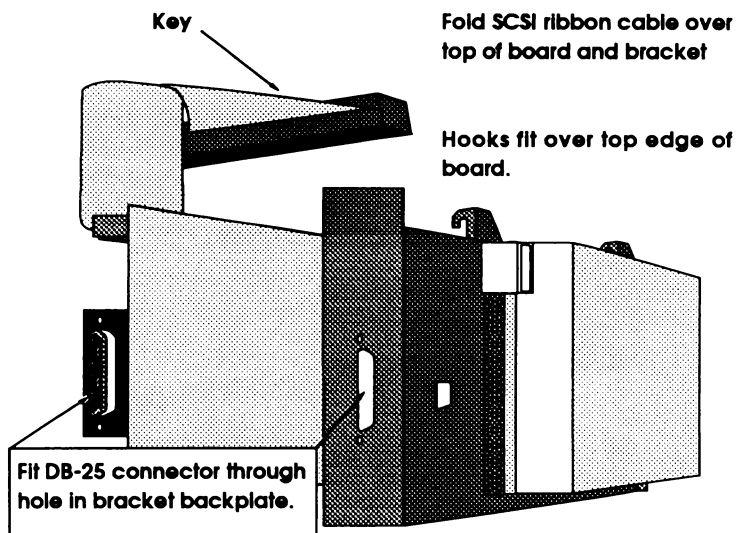

Figure 4.10 – Guide Piggy Back bracket onto Combo board.
- 3k) Hook the Piggy Back bracket over the top edge of the card and slide the elliptical hole in the bracket's rear mounting plate over the 25-pin DB-style SCSI connector (*Figure 4.10*).